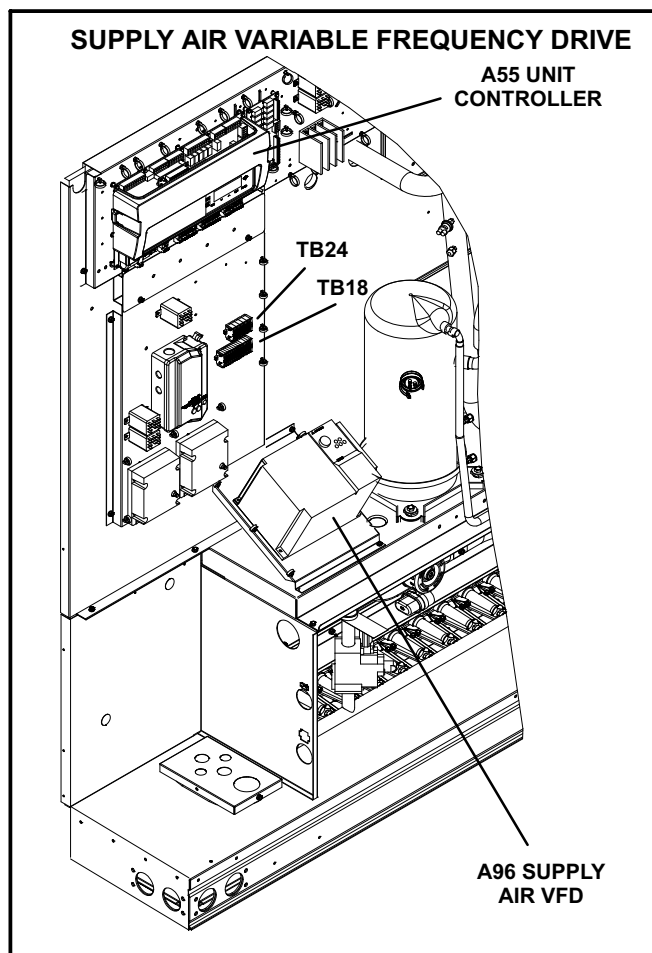

FIGURE 26
The supply air VFD (A96) is located near the compressors. See figure 26.
- 4- Locate the A55 Unit Controller. Refer to figure 26.